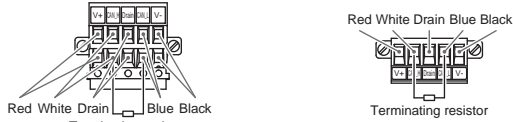

Figure 2
- (2) A bus termination is required at both ends of DeviceNet™ bus segment as shown in the Figure 2.